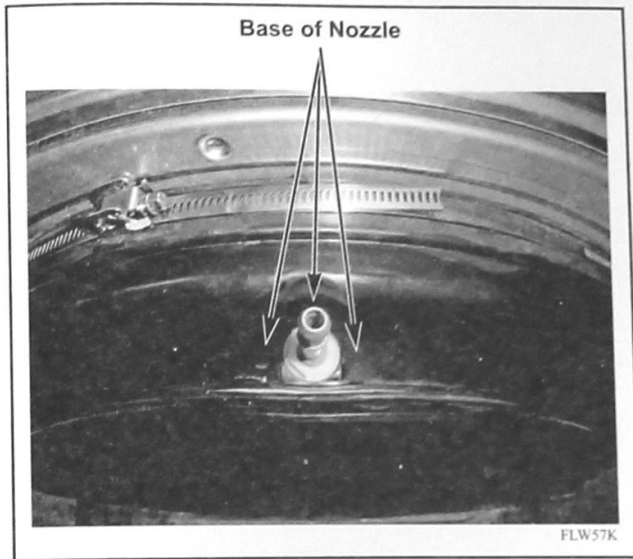

Figure 6
- b. Apply half of remaining lubricant around base of nozzle. Refer to *Figure 6*.